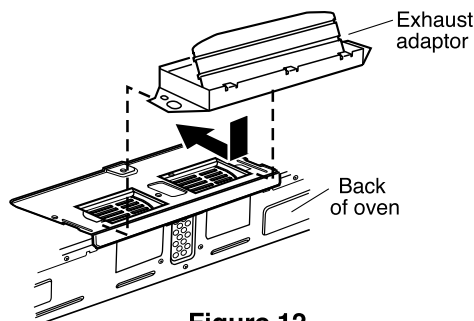

Figure 12
1. Attach the exhaust adaptor to the blower plate by sliding it into the guides. (See Figure 12.)